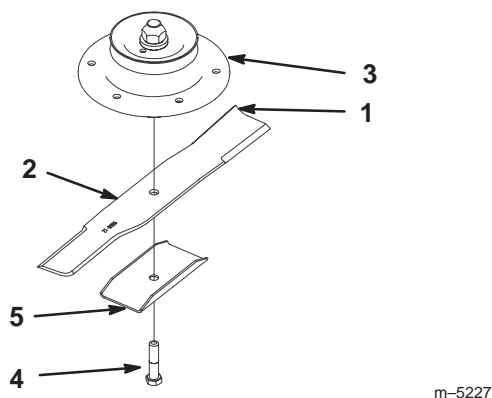
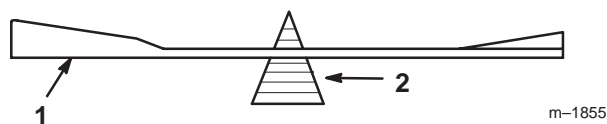

Figure 45
Figure 47
1. Hold the blade end using a rag or thickly-padded glove. Remove the blade bolt, blade stiffener and blade from the spindle shaft (Fig. 45).
2. Check the balance of the blade by putting it on a blade balancer (Fig. 47). If the blade stays in a horizontal position, the blade is balanced and can be used. If the blade is not balanced, file some metal off the end of the sail area only (Fig. 45). Repeat this procedure until the blade is balanced.
1. Install the blade onto the spindle shaft (Fig. 45).
Important The sail part of the blade must be pointing upward, toward the inside of the mower to ensure proper cutting (Fig. 45).
2. Install the blade stiffener and blade bolt (Fig. 45). Torque the blade bolt to 85–110 ft-lb (115–140 N•m).